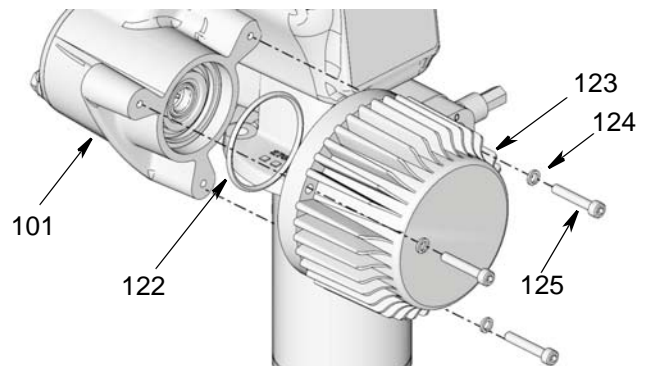

FIG. 58
- Remove screws (125) and washers (124) holding motor (123) to gear box housing (101). Remove motor. Verify o-ring (122) was removed with motor. (FIG. 58)